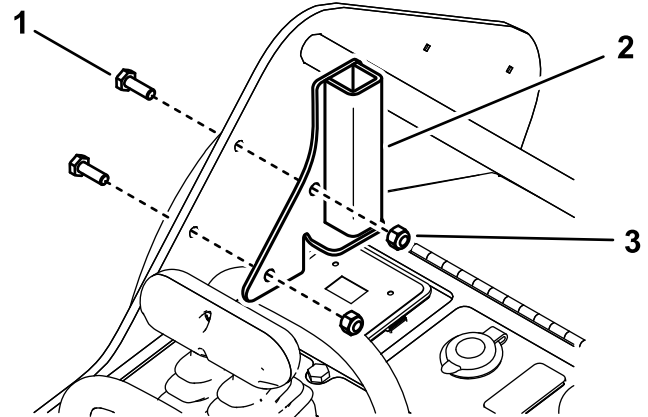

Figure 7
3. Install the left shield bracket on the left frame using 2 bolts (1/4 x 3/4 inch) and 2 locknuts (1/4 inch) as shown in Figure 7.
4. Install the right shield bracket on the right frame 2 bolts (1/4 x 3/4 inch) and 2 locknuts (1/4 inch), similar to Figure 7.